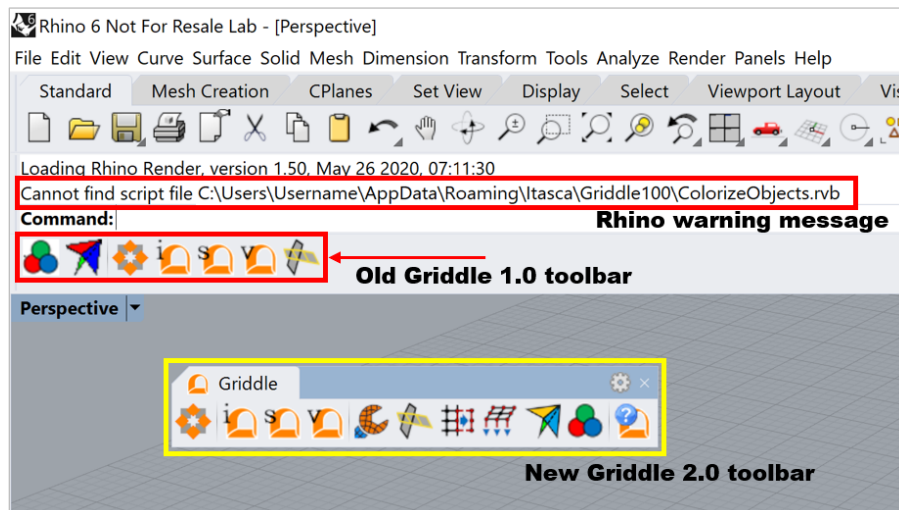

Figure 2: The *Rhino 6* window with *Griddle 1.0* and *Griddle 2.0* toolbars.
3. Figure 2 shows that *Rhino* outputs a warning “Cannot find script file ...ColorizeObjects.rvb”. This message may appear when *Rhino* starts. This occurs because the *Griddle 2.0* installer removes *Griddle 1.0* script files, however, *Rhino* is not aware of that (as these files were originally installed manually). Ignore this warning or remove the reference to old scripts from *Rhino* to prevent future warnings. To do so, use the menu items **Tools** → **Options** → **RhinoScript**. Find “ColorizeObjects.rvb” in the list of scripts and delete it (click on the large red X).